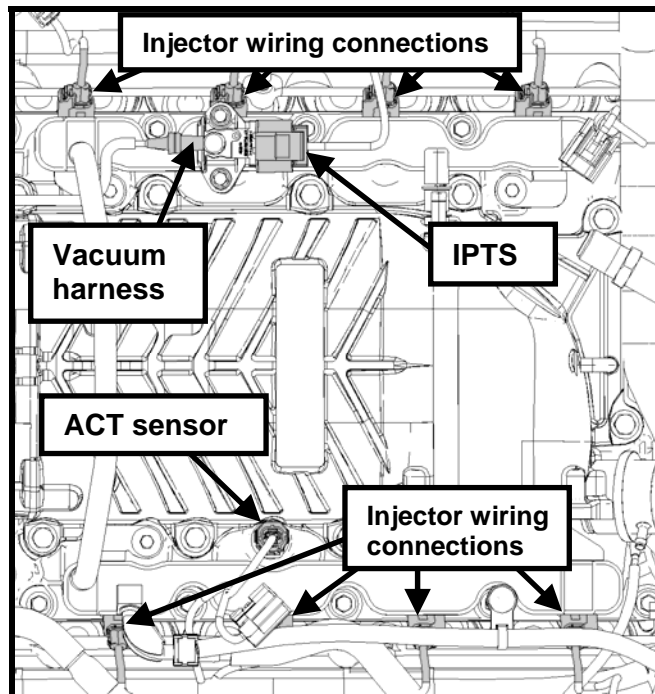

Fig. 18
STEP 3: Connect fuel injector wiring harnesses, fuel pressure regulator (IPTS) electrical harness, vacuum harness and ACT wiring connector (See Fig. 18).